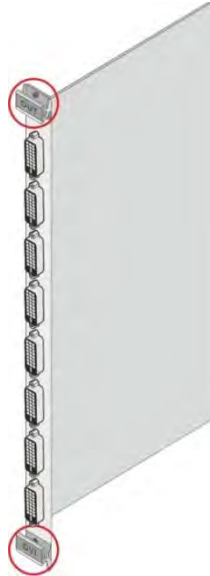

Figure 18: Card Handles
2. Using a Phillips screwdriver, loosen the screws at the top and bottom of the blanking plate (see Figure 18).